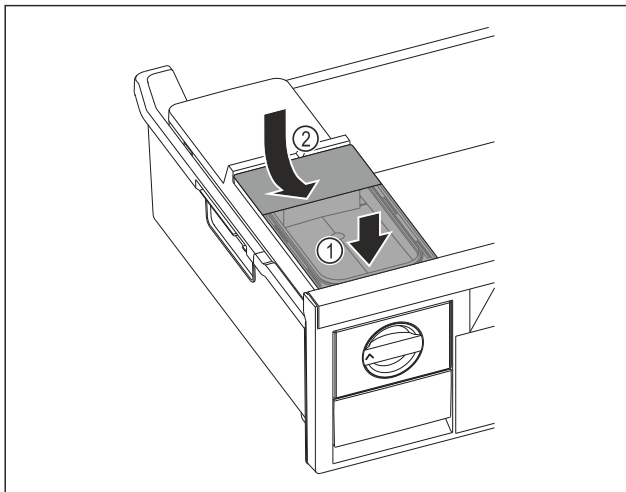

Fig. 70
- ▶ Position the water tank at the front. Fig. 70 (1)
- ▶ Lower the water tank at the rear. Fig. 70 (2)